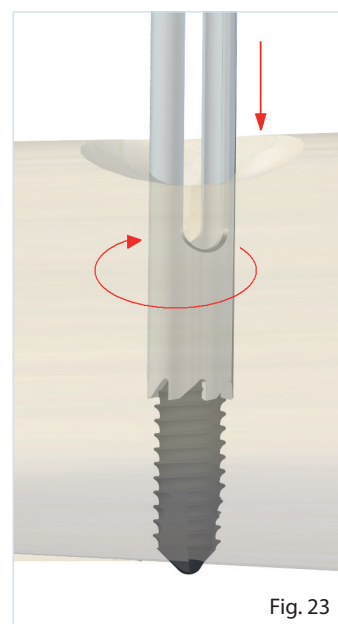

Fig. 23
- Use the cutter to create a hole around the broken screw deep enough to screw on the extractor (Fig. 23).